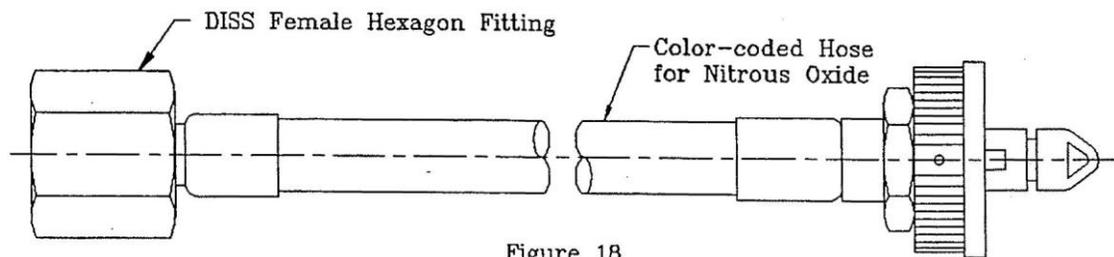
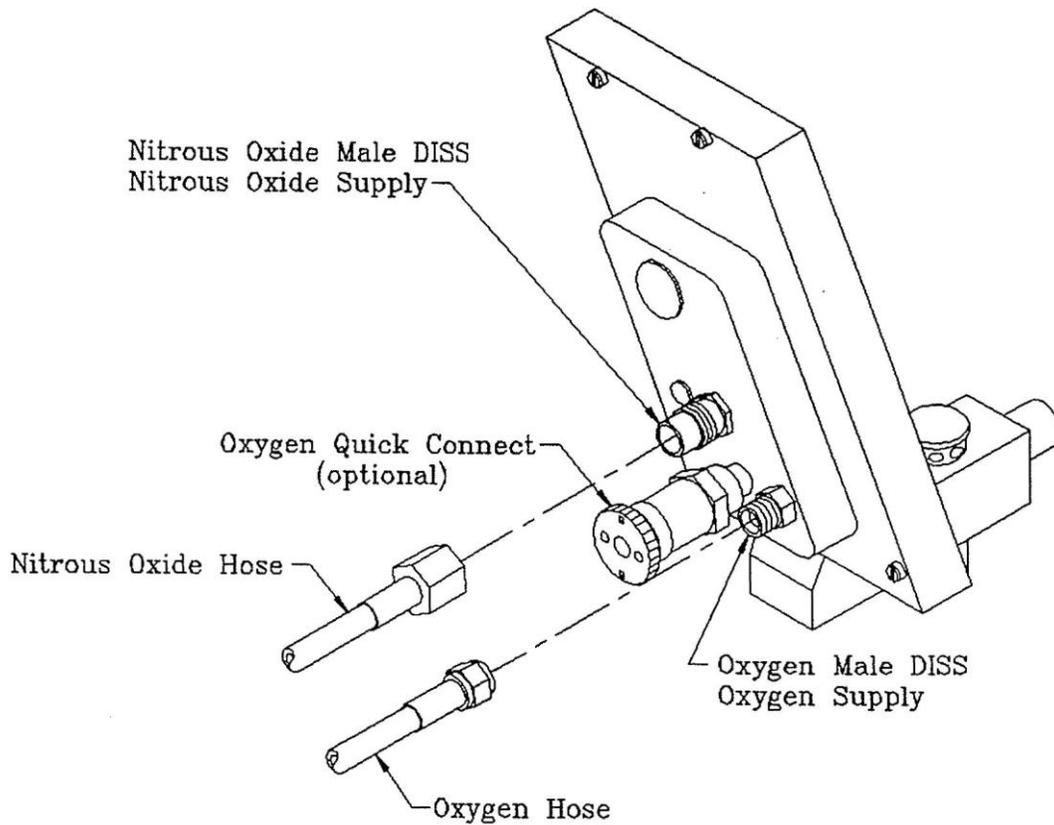

Figure 18
Figure 19
1. Connect DISS female hexagon fitting (see fig 18) of the nitrous oxide hose to male DISS fitting on the back of the analgesia head (see fig 19). The fitting is labeled N₂O. Accomplish this connection by screwing female hexagon fitting onto the male threaded fitting. Hand tighten and **then** finish tightening with a 7/8 open end wrench just enough to prevent leaks. **Do not over tighten.**
2. In the same fashion, connect the oxygen hose to the male oxygen fitting (see fig 19). Finish tightening the female hexagon fitting with an 11/16 open end wrench just enough to prevent leaks. **Do not over tighten.**
These hoses are designed to be used with portable units or DISS outlet stations. Connection to the cylinder mount will be made in the same manner as in Figures 19 & 22. Hoses are included with yoke blocks.
- C. Connect hoses to the medical gas source as outlined in Figures 19 and 22 of the Description and Mechanical Assembly section.